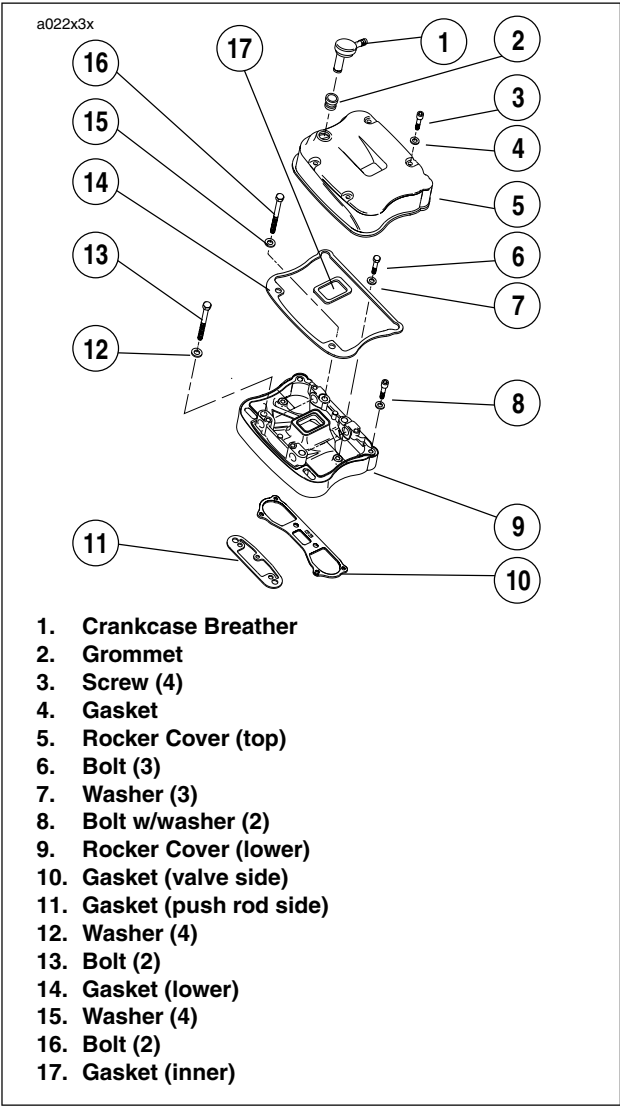

Figure 3-65. Rocker Arm Cover Gaskets
14. See Figure 3-65. Install **new** gaskets with the bead facing up. Place lower rocker box assembly (with rocker arms and shafts into position). Place push rods in rocker arm sockets.
16. See Figure 3-65. Install upper rocker covers.